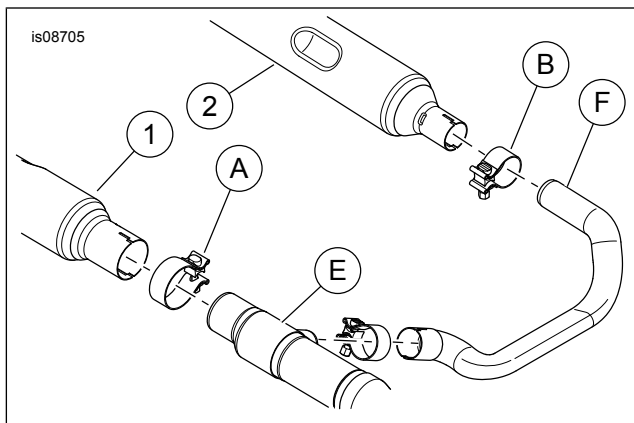
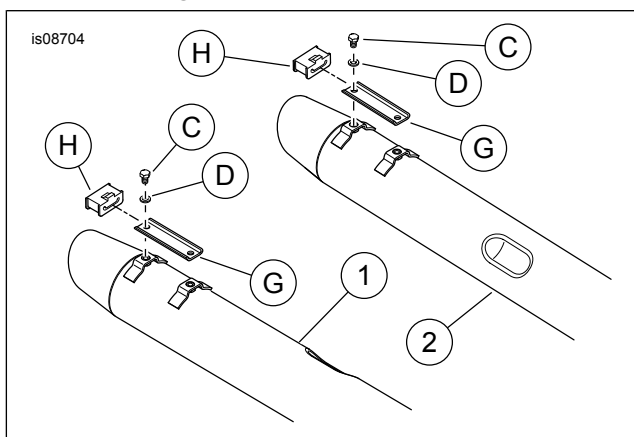

Figure 1. Front Muffler Clamp
Figure 2. Rear Muffler Mount
2. See Figure 1. Loosen the front muffler clamp (A or B).
3. See Figure 2. Remove and retain the rear muffler mount bolts (C) and lockwashers (D).
7. Secure the rear of the muffler (1 or 2) to the sliding bracket (G) with original equipment bolts (C) and lockwashers (D). Leave fasteners loose.
8. Position the sliding bracket so the rubber mount (H) is at the center of the sliding bracket.
9. Tighten bolts (C) to 18.9–24.2 N·m (14–18 ft-lbs).
10. See Figure 1. Position the muffler clamp (A or B) as shown, with the clamp bolt in a vertical position.